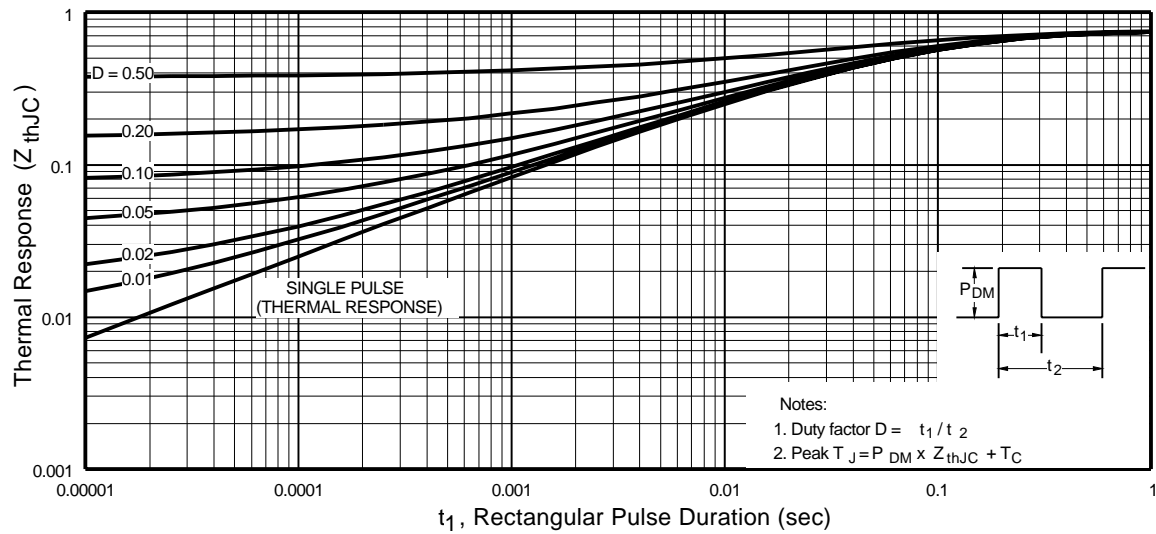

Fig 11. Maximum Effective Transient Thermal Impedance, Junction-to-Case
$Z_{thJC}(D, t_{av})$ = Transient thermal resistance, see figure 11)
- ① Repetitive rating; pulse width limited by max. junction temperature. (See fig. 11).